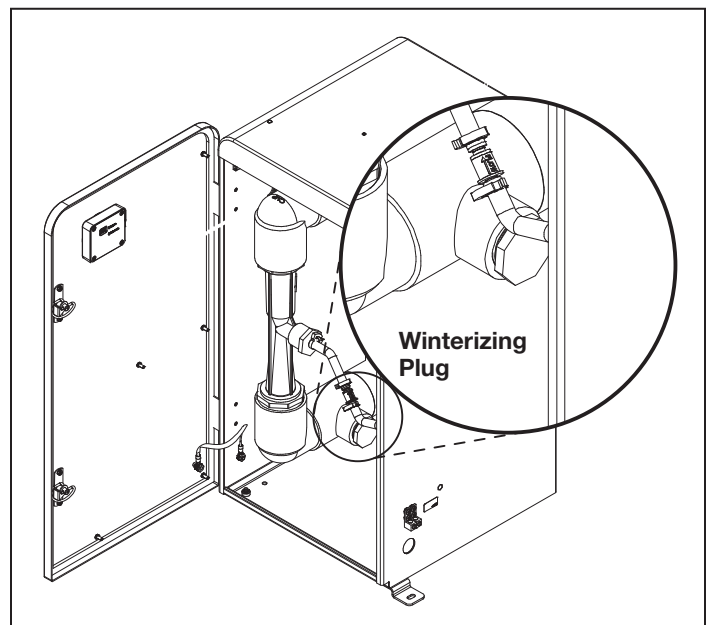

Figure 9. Winterization Plug Location
3. Locate the 1" NPT drain plug and remove to drain the remaining water. See Figure 9.